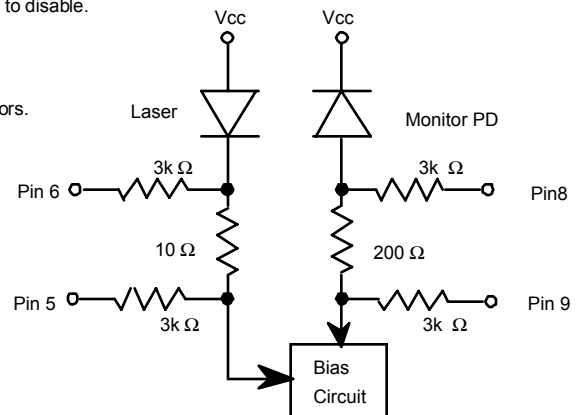

Figure 3 Monitor Circuit Schematic Diagram
7. The Laser Bias and Rear Facet Monitor currents are calculated as ratios of the corresponding voltages to their current-sensing resistors, 10Ω and 200Ω, respectively(refer to Figure 3). Upon measuring or utilizing these values, use a device whose input impedance is high enough(>1MΩ) compared with those resistors.